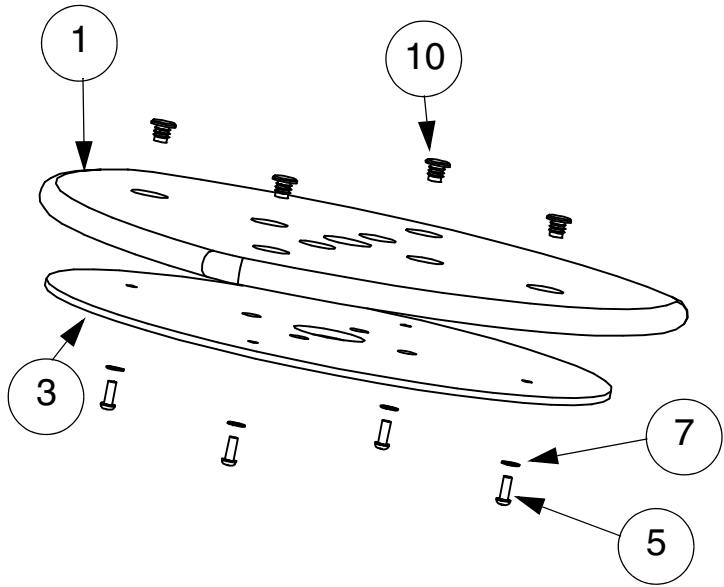

FIG.6
- 4) Attach Eko Grip Seat (item 1) to Mounting Plate (item 3) using 4 off M6 Tee Nuts (item 10) with 4 off M6 x 16 Resistorx Bolts (item 5) and M6 Washers (item 7). See FIG.6.